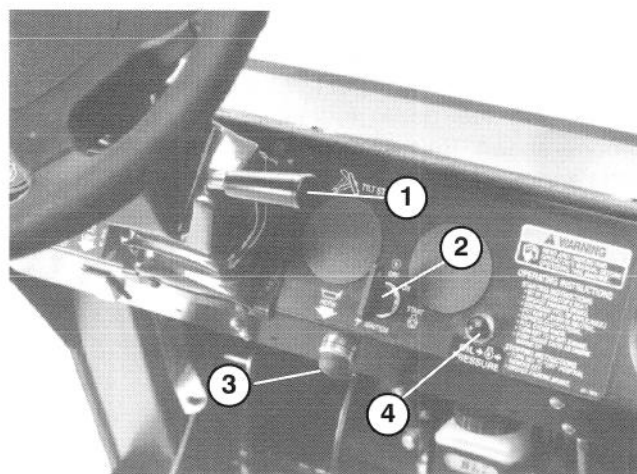

Figure 17
**Tilt Steering Lever** (Fig. 17) – Lever on right side of console allows steering wheel to be adjusted for operator comfort.
**Horn Button** (Fig. 17) – Pressing button activates horn.
**Ignition Switch** (Fig. 17) – The ignition switch, used to start and stop the engine, has three positions: OFF, RUN and START. Rotate key clockwise — START position — to engage starter motor. Release key when engine starts. The key will move automatically to the ON position. To shut engine off, rotate key counterclockwise to OFF position.
**Oil Pressure Warning Light** (Fig. 17) – Light glows if engine oil pressure drops below a safe level. If light flickers or remains ON, stop vehicle, turn off engine and check oil level. If oil level was low, but adding oil does not cause light to go out when engine is restarted, turn engine off immediately and contact your local TORO distributor for assistance.